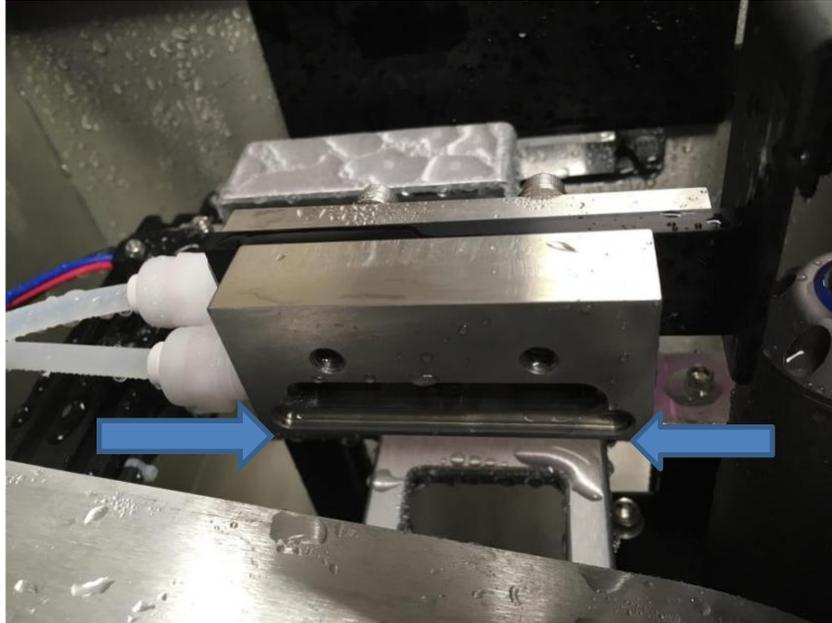

Figure 80 – Rinse Module – Rinse Head Open for Cleaning
- Once everything is reassembled and back in the Rinse Module, make sure the alignment was not bumped out of place. You need to slide a microplate underneath the rinse head and the micro dispense head and ensure that the water blade's coverage and the micro dispenser will adequately cover the entire width of the microplate as shown below (Figure 80)